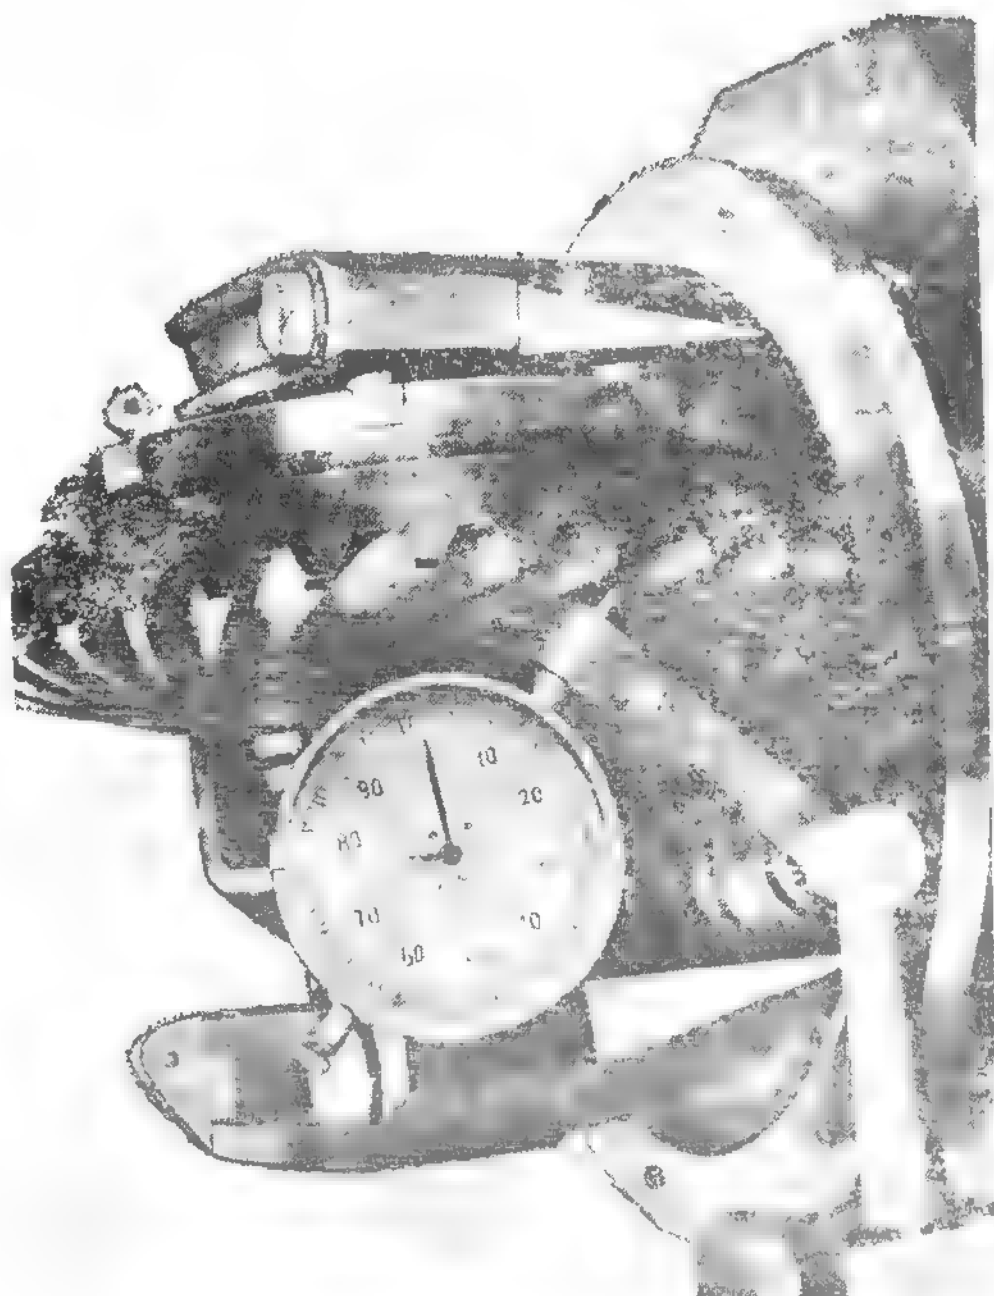

Fig. 4.136. MEASURING CLEARANCE BETWEEN DRIVE PINION
- Keeping driving pinion fixed, get the crown wheel nearer it, till when measuring the backlash of the crown wheel teeth flank, it should not exceed the value of 0.1 - 0.2 mm (see Fig. 4.136). In this position the adjusting nut will be locked (having a recess in the middle of the half-bearing cap) by final tightening of the bolts, (fastening the half-bearing covers on differential housing) applying a torque of 4 - 4.5 m. daN (28.8 - 52.5 ft.lbs).